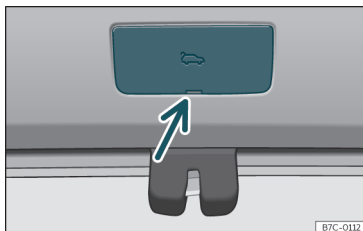

Fig. 86 Detail of the luggage compartment: access to emergency unlocking.
- Remove the cover using the key blade as a lever >>> **Fig. 86**.